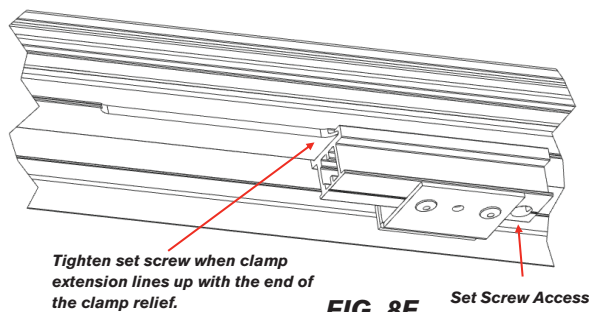

FIG. 8F
- Next slide the extensions so they line up flush with the end of the clamp relief as shown in Figure 8F and tighten with a 5/32" Allen Wrench. If you have trouble sliding on the clamp extension, make sure your set screw is not sticking out the top of the clamp extension.